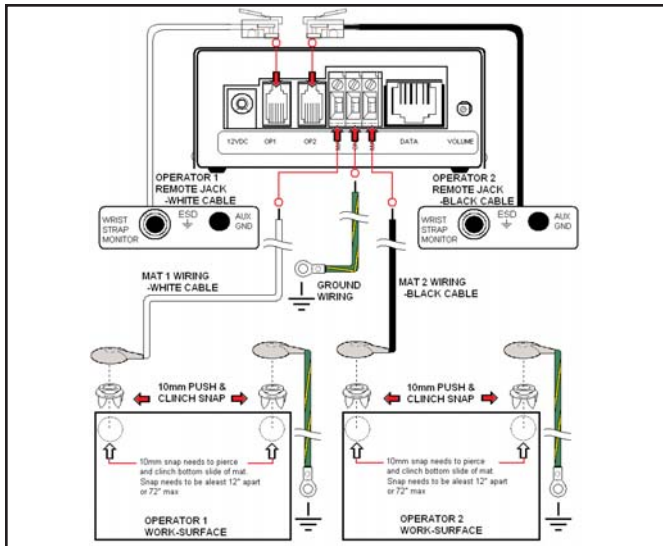

Figure 3. Mat Grounding
- If not already done, attach the work surface to workstation common point ground using the pictured ground wires. For mats, attach the grounding point snaps at the ends of the ground monitor cords to the grounding point snaps on the work surface. These ground monitor cords are used for sensing whether or not the unit is properly grounded. Refer to figure 3 for snap-plate fitting diagram and for laminates or other hard surfaces with a buried conductive layer.